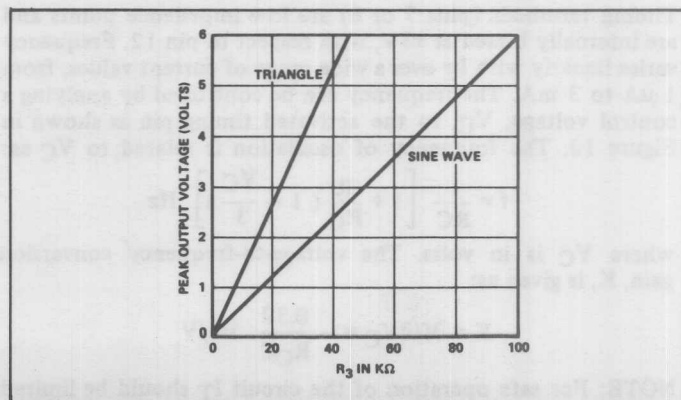

Figure 3. Output Amplitude as a Function of Resistor  $R_3$  at Pin 3.
Note 1: Output Amplitude is directly proportional to the resistance  $R_3$  on Pin 3. See Figure 3.
**Output Amplitude:** Maximum output amplitude is directly proportional to external resistor  $R_3$  connected to Pin 3 (See Fig. 3). For sinewave output, amplitude is approximately  $60 \text{ mV}$  peak per  $\text{K}\Omega$  of  $R_3$ ; for triangle, the peak amplitude is approximately  $160 \text{ mV}$  peak per  $\text{K}\Omega$  of  $R_3$ . Thus, for example,  $R_3 = 50 \text{ K}\Omega$  would produce approximately  $\pm 3\text{V}$  sinusoidal output amplitude.